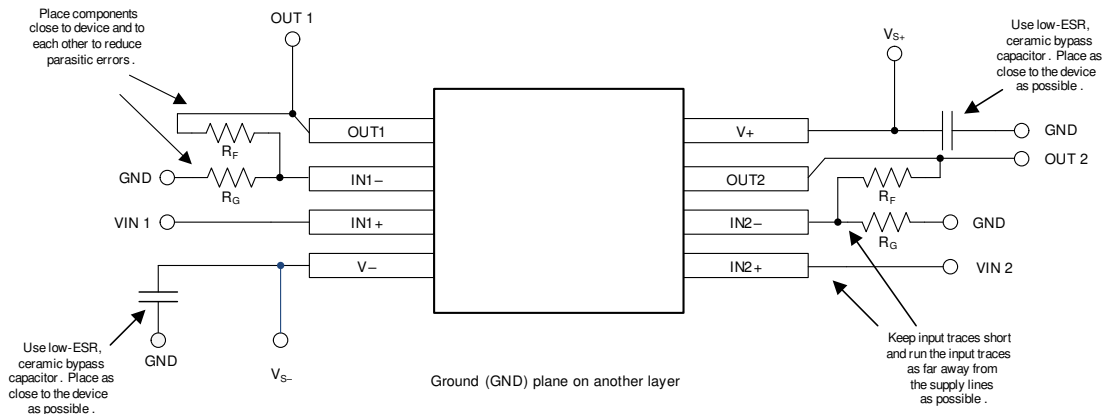

图 10-2. Layout Example
- Place the external components as close to the device as possible, as shown in 图 10-2. Keeping  $R_F$  and  $R_G$  close to the inverting input minimizes parasitic capacitance.